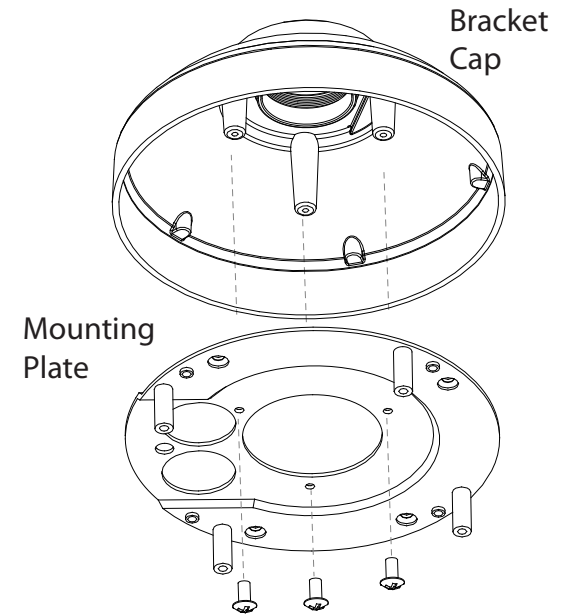

Figure 3.1
1. Attach the mounting plate to the bracket cap using the three screws as shown in **Figure 3.1**.